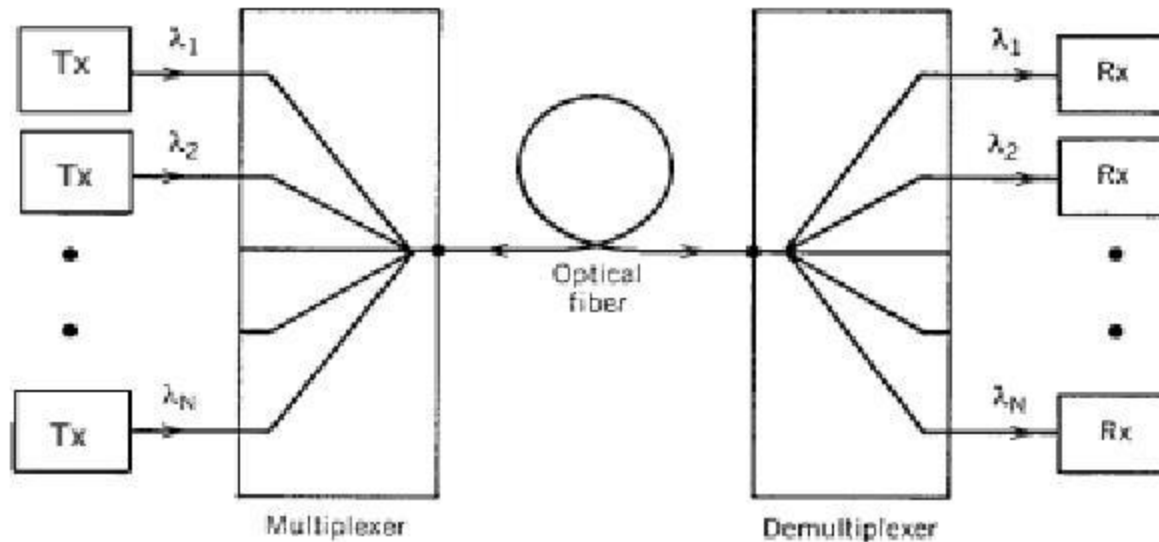

Figure 3.3: Multichannel point-to-point fiber link: Separate transmitter-receiver pairs are used to send and receive the signal at different wavelengths
- Figure 3.3 shows the design of an OTDM transmitter based on the delay-line technique